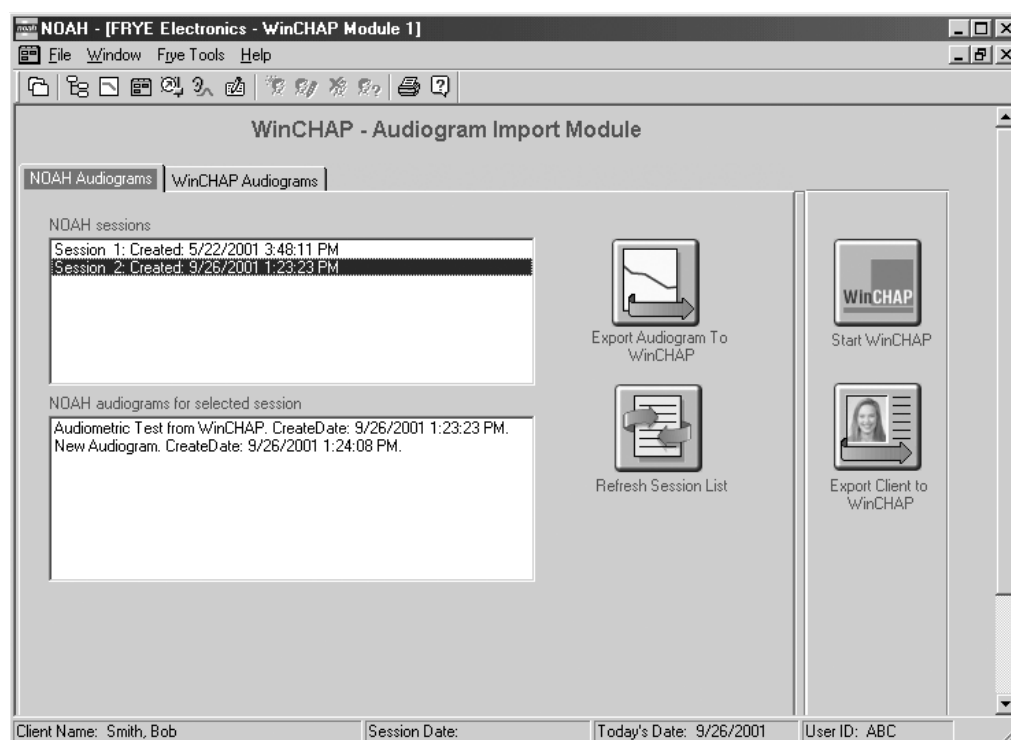

Figure 8.3—Viewing NOAH audiograms
4. Select **Frye Electronics**. This will open the WinCHAP Module. See Figure 8.3.
The NOAH Audiogram Section contains a listing of all audiograms saved in NOAH 3 for the current client. See Figure 8.3.
1. If needed, click on the **NOAH Audiogram** tab to enter the NOAH Audiogram Section and display the window shown in Figure 8.3.